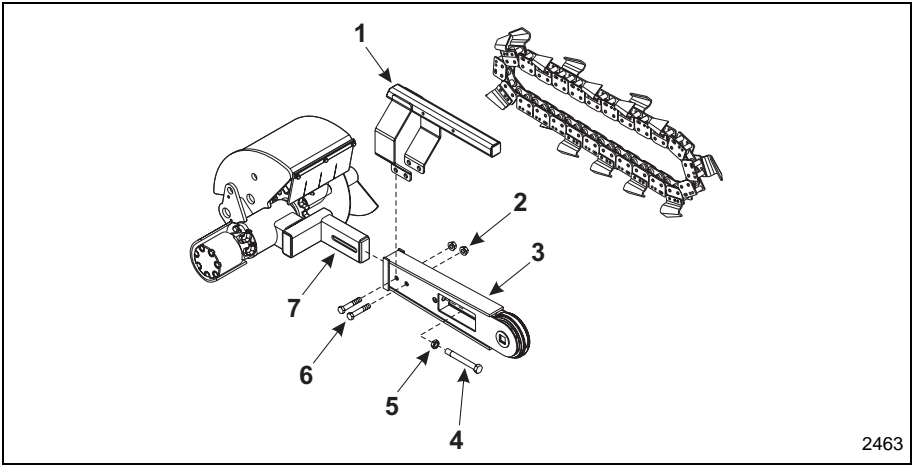
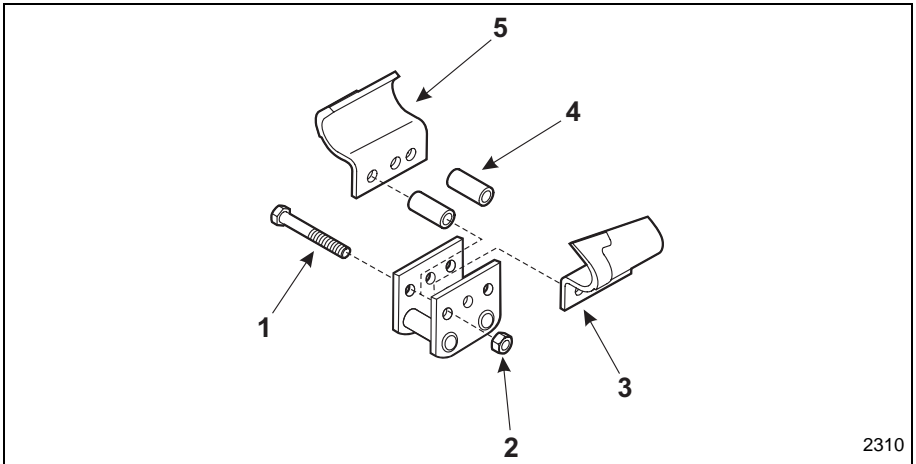

Figure 4-20 Trencher Boom Assembly
Figure 4-21 Tooth Replacement
Adjust the digging chain tension every 25 operating hours. With the trencher parallel to the ground, make that there is 1¾" to 2" of chain sag between the bottom of the boom and the top of the bottom chain span. See Figure 4-20.
Some parts in Figure 4-20 have been removed for clarity.
1. Remove the boom guard (Item 1, Figure 4-20) from the boom assembly.
2. Loosen the Chain Tension Adjustment Bolt lock nut (Item 5, Figure 4-20) and Chain Tension Adjustment Bolt (Item 4, Figure 4-20) to fully release the chain tension.
4. Slide the boom assembly (Item 3, Figure 4-20) forward and off the trencher frame (Item 7, Figure 4-20).
9. Tighten the lock nut (Item 5, Figure 4-20) to secure the tension adjustment bolt (Item 4, Figure 4-20) in position.
10. Reinstall the boom guard (Item 1, Figure 4-20)
Due to the high amount of wear placed on the digging teeth, you will need to replace them periodically. To replace a single tooth (Items 3 and 5, Figure 4-20), remove the bolts and nuts (Item 1 and 2, Figure 4-21) securing the tooth to remove it, and then install a new tooth in the same position.
The spacer tubes (Item 4, Figure 4-21) will fall free. Make sure to reinstall these when the new tooth is installed.